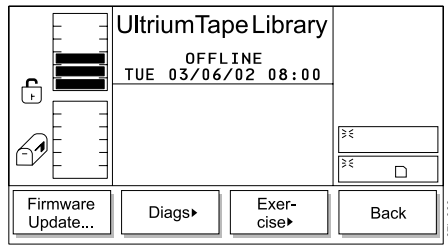

Figure 282. Library Submenu
- Press the button below the **Library** softkey. The Library Submenu displays (see Figure 282).